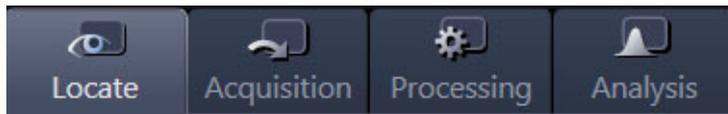

Fig.4 Main tab
### Left Tool Area (Fig.4-①,②,③)
### Center Screen Area (Fig.4 - ④,⑤,⑥)
- ④ **Image Window**      ⑤ **View Tabs**      ⑥ **View Controller**
### Right Tool Area (Fig.4 -⑦, ⑧)